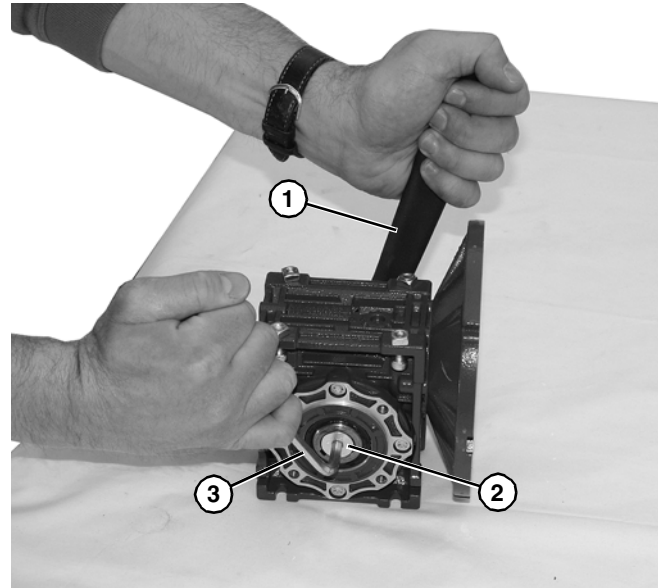

Figure 30
1. Hold the driveshaft with a wrench (**Figure 30, item 1**) as shown to keep shaft from turning, while removing screw (**Figure 30, item 2**) with hex wrench (**Figure 30, item 3**).
6. Hold the driveshaft with a wrench (**Figure 30, item 1**) as shown to keep shaft from turning, while installing screw with hex wrench (**Figure 30, item 3**). Tighten screw to 100 in-lb (11.5 Nm) for 42CZ or 350 in-lb (39.5 Nm) for 56C, 63B5 and 71B5.